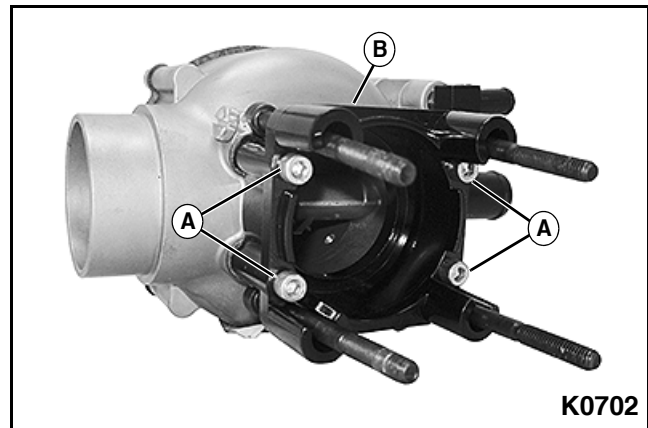

Figure 3-37
4. Remove four socket head cap screws (A) securing air-fuel mixer to throttle body adapter (B) and remove adapter. **See Figure 3-37.**